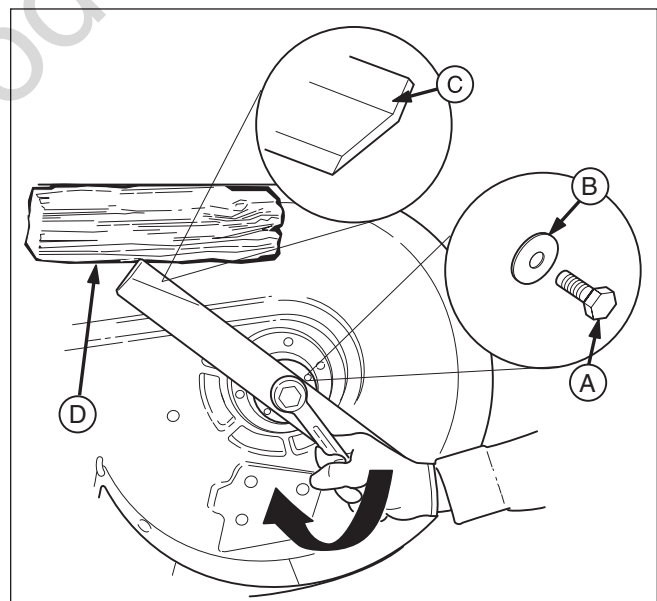

Figure 38. Tightening the Mower Blade for Installation
1. Reinstall each mower blade with the air lifts pointing up towards the mower deck as shown in Figure 38. Secure with the mower blade mounting bolt and flat washer (A & B, Figure 38) and torque to 70 ft. lbs (94 Nm).